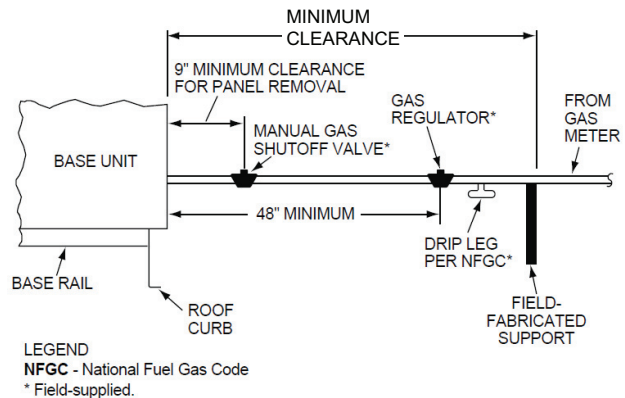

Fig. 4 — Vent Clearance Requirements
- h. Locate mechanical draft system flue assembly at least 10 ft from any opening through which combustion products could enter the building, 4 ft from regulator vent, and at least 4 ft from any adjacent building. When unit is located adjacent to public walkways, flue assembly must be at least 7 ft above grade or 4 ft horizontally from the walkway. See Fig. 4 for clearance requirement details.